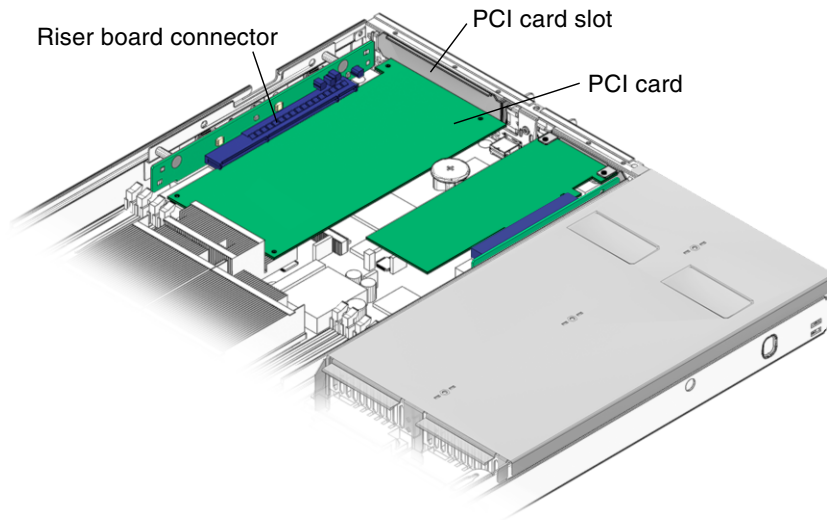

FIGURE 3-11 Riser Board and PCI Card Connector – Sun Fire V215
7. Carefully remove the PCI card from the PCI card slot and riser board connector (FIGURE 3-11).